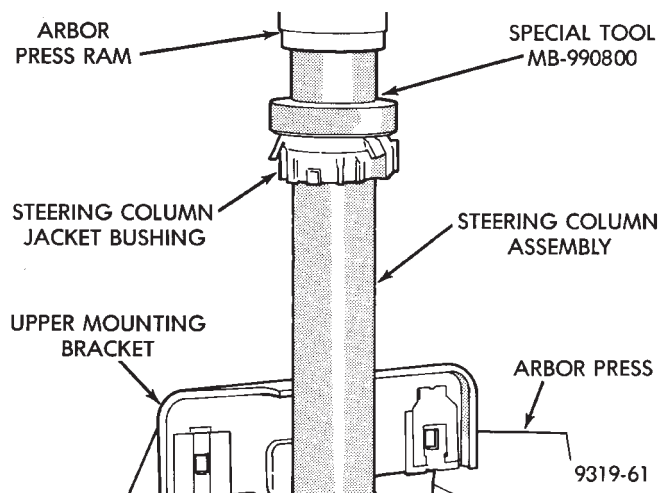

Fig. 6 Installing Steering Column Jacket Bushing
(2) Position steering column in an arbor press supported by the upper mounting bracket as shown in (Fig. 6). Place Installer, Special Tool MB-990800 on steering column jacket bushing and squarely align steering column with ram of arbor press. Press bushing onto steering column jacket until fully seated.